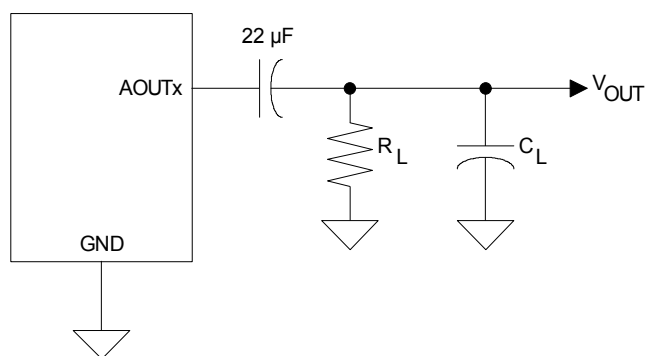

Figure 5. Equivalent Output Test Load
19. Loading configuration is given in Figure 5 below.